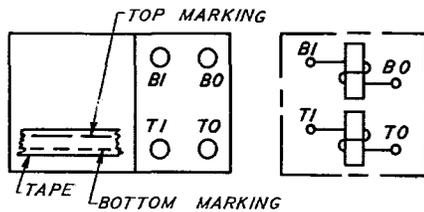

FIG. 63 - WINDING TERMINAL ARRANGEMENT OF KS-3106 (SINGLE PEN) AND KS-3107 (DOUBLE PEN) FOOTE-PIERSON PEN REGISTERS
4.13 KS-3106 and KS-3107 Pen Registers: The winding terminals of the KS-3106 single pen register are lettered I for inner and O for outer. The double pen registers per KS-3107 are numbered and lettered as shown in Fig. 63. The B binding posts are associated with the coils which control the bottom tape marking and the T binding posts are associated with the coils which control the top tape marking as shown in Fig. 63. The I represents the binding posts nearest the mechanism and the O represents the binding posts furthest from the mechanism.